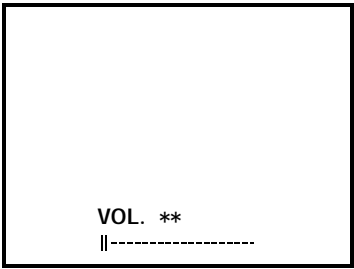

Fig.1
1. Press the VOL+key (or VOL-key) and check VOL. on the screen as shown in Fig.1.